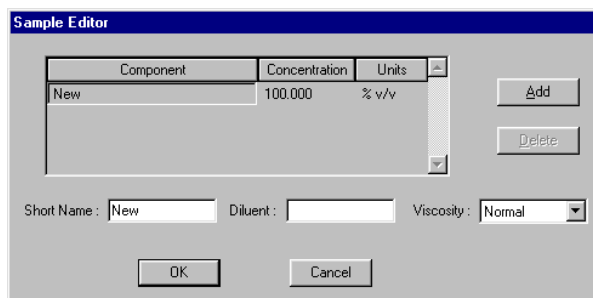

Figure 4-18 Sample Editor Dialog Box
4. To create a new sample, click the **New** button. To edit a sample, select the sample and click the **Edit** button. The Sample Editor dialog box is displayed (Figure 4-18).